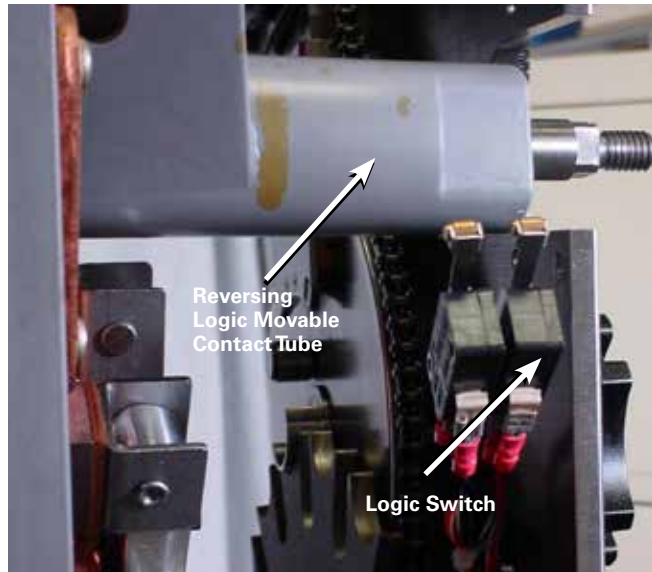

Figure 60. Reversing movable contact switch.
6. After the removal of the reversing logic switch mounting screws, the switch will drop away from the reversing movable switch tube. See Figure 60.